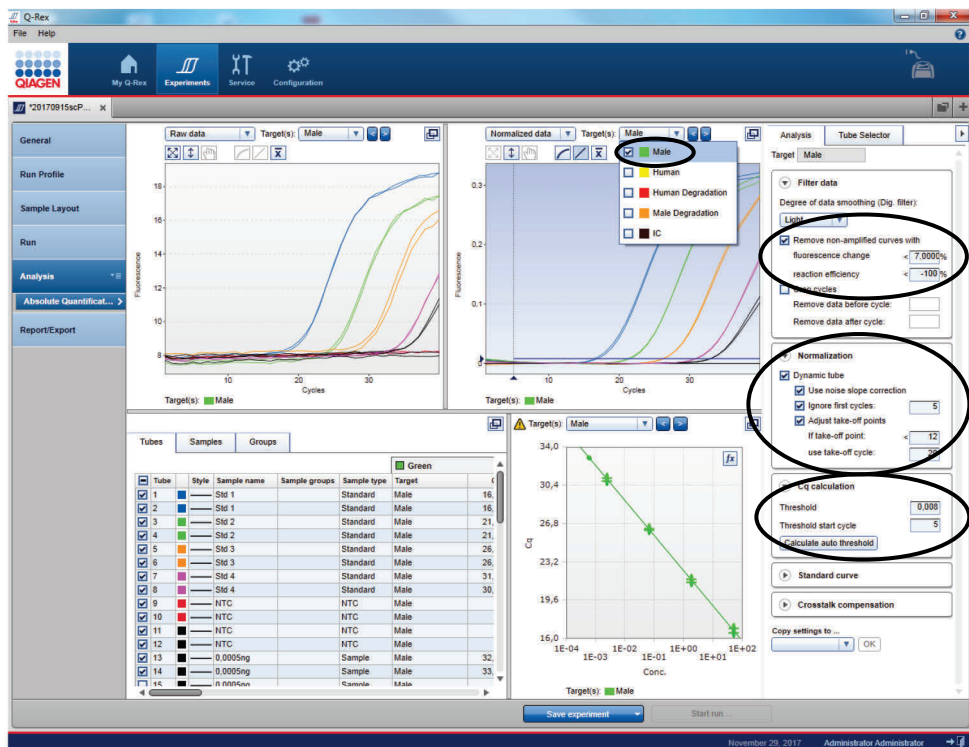

Figure 31. Setting analysis parameters in Q-Rex.
6. Select the green channel (Male target) within the normalized data section (Figure 31).
7. Select "Filter data" on the right panel (Figure 31).
9. Select "Normalization" (Figure 31).
12. Select “Cq calculation” on the right panel (Figure 31).
14. Repeat step 7 to 14 for the yellow (Human target), orange (Male Degradation target), red (Human Degradation target) and crimson (IC) channel, and confirm analysis settings according to table 12.